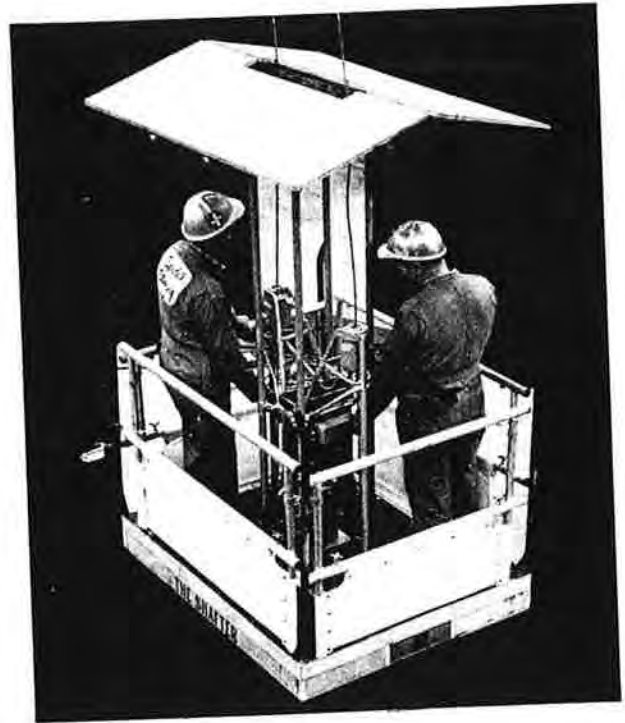

Figure 7
**Canopy**—The canopy offers overhead protection for the workers. (Fig. 7)